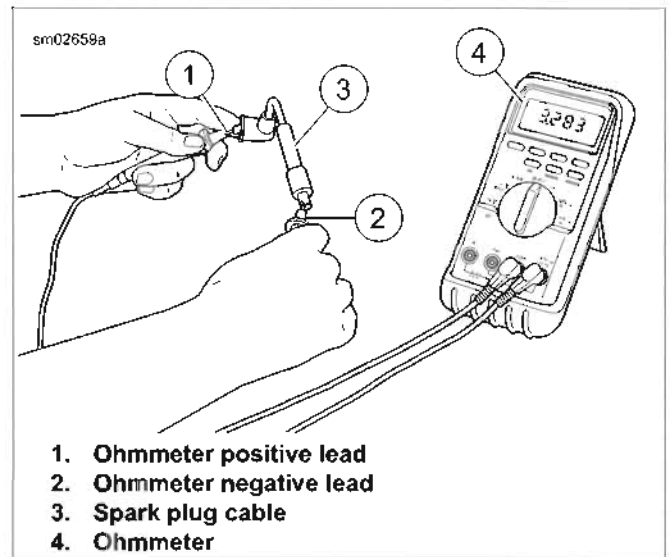

Figure 1-39. Testing Resistance
3. See Figure 1-39. Check spark plug cable resistance with an ohmmeter. Replace cables not meeting resistance specifications. Refer to Table 1-17.